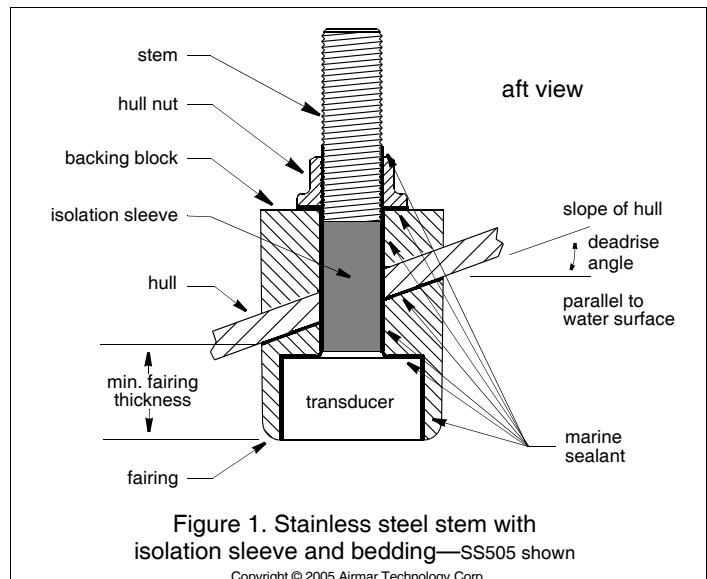

Figure 1. Stainless steel stem with isolation sleeve and bedding—SS505 shown
1. Drill a 3mm or 1/8" pilot hole perpendicular to the waterline from inside the hull (see Figure 1). If there is a rib, strut, or other hull irregularity near the selected mounting location, drill from the outside.
1. Measure the deadrise angle of the hull at the selected mounting location using an angle finder (see Figure 1). *Check to be sure the angle does not exceed the maximum allowed (see Specifications Table 1).*
4. Adjust the cutting fence, so the fairing will be cut in about two equal parts. There is a minimum thickness for the fairing at its thinnest dimension (see Figure 1 and Specifications Table 1).
Stainless steel transducer/stem in a metal hull—Slide the isolation sleeve over the bedded transducer stem as far down as possible (see Figure 1). Apply a 2mm (1/16") thick layer of the marine sealant to the outside of the sleeving.
Stainless steel transducer/stem in a metal hull—Be sure the isolation sleeve is between the transducer stem and the hull (see Figure 1). However, the top of the isolation sleeve must be below